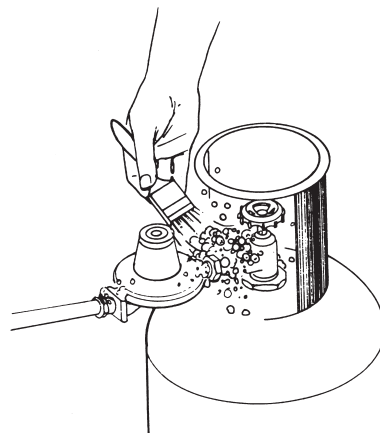

Figure 32-6: Use Soap to Test for Leaks
- Cylinder valves in use must be fully opened and check for leaks with soapy water (Figure 32-6) or a leak detector. Sometimes you may notice a gas odour or frost appearing on a fitting, but these signs are not always reliable. If a leak is detected, shut off the cylinder valve and make corrections. Fully close valves when not in use.